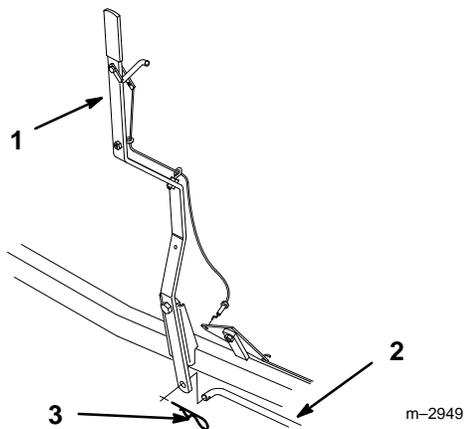

Figure 10
5. Remove hairpin cotter and control rod from index lever (Fig. 10).